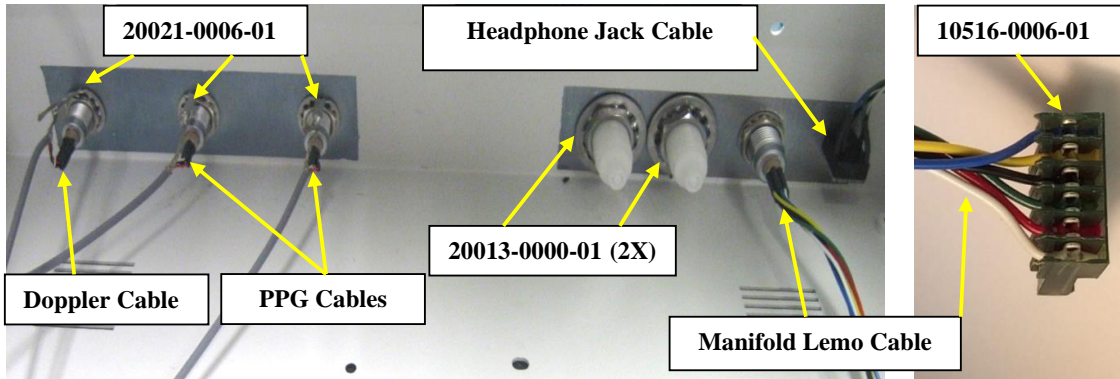

Figure 24
- 12.1. Attach LEMO connector of the Doppler Cable, made in Step 2, into the Chassis using a 3/8" Solder Lug (20021-0006-01), in place of the lockwasher provided with the LEMO, in-between the nut (provided with LEMO) and the Chassis (see Figure 24). Tighten the nut with an 11mm wrench.
- 12.7. Attach each of the two (2) LEMO connectors of the PPG Cables (made in Step 3) into the Chassis using two (2) 3/8" Solder Lugs (20021-0006-01), in place of the lockwashers provided with the LEMOs, in between the nut (provided with LEMOs) and the Chassis (see Figure 24). Tighten the nut with an 11mm wrench.
- 12.13. Mount two (2) Panel Mount Air Fittings (10606-0003-01) to the Chassis using two (2) 9/16" Lockwashers (20013-0000-01) and the nut, provided with the Air Fittings (see Figure 23 and Figure 24). Tighten nut using a 5/8" open wrench.
- 12.14. Install the Manifold LEMO Cable (made in Step 5) into Chassis using the lockwasher and nut supplied with the LEMO connector (See Figure 23 and Figure 24). Tighten using a 14 mm wrench. *Note: Keep the RED DOT key on the LEMO connector UP when installing.*
- 12.15. Twist the wires, of the Manifold LEMO Cable, together and connect to a 6 Pin .100" Housing (10516-0006-01) as shown in Figure 24 (right): blue to pin 6, yellow to pin 5, black to pin 4, green to pin 3, red to pin 2, and white to pin 1.
- 12.16. Mount the Headphone Jack Cable (made in Step 4) to the Chassis using the supplied hardware (see Figure 24). Keep the wires to the top side.